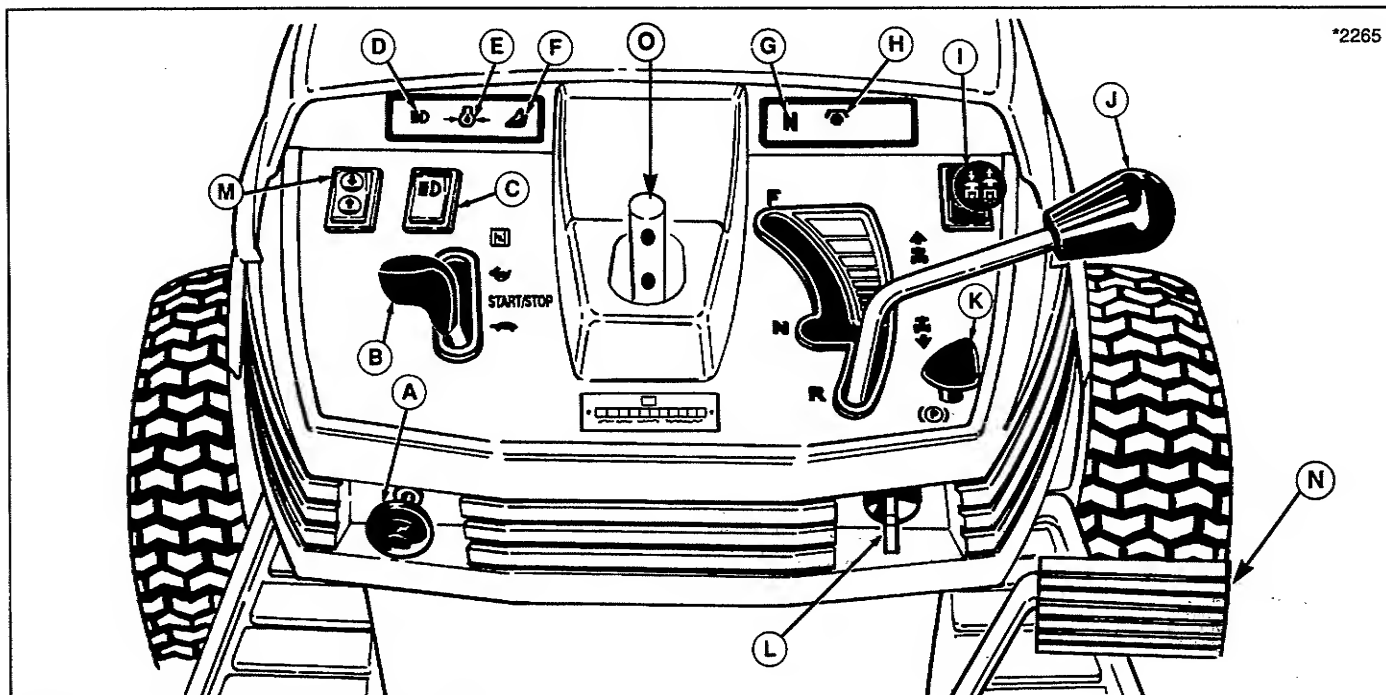
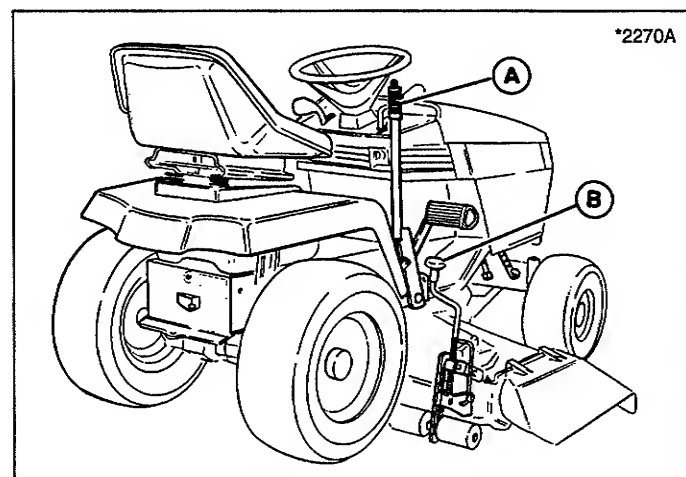
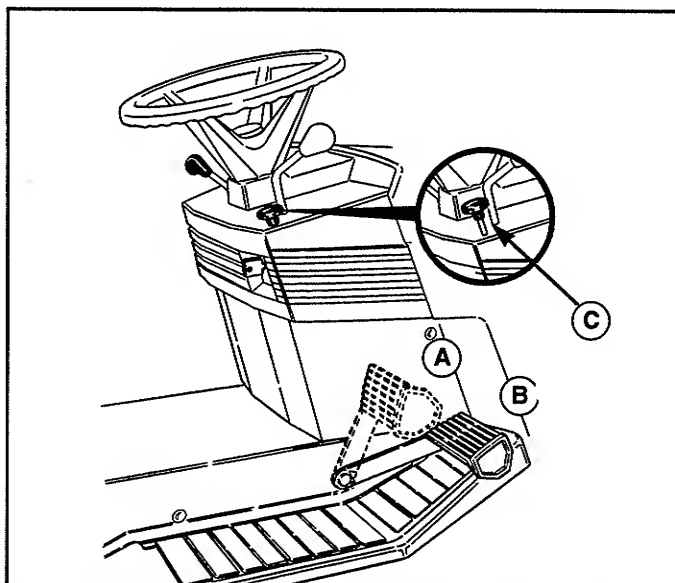
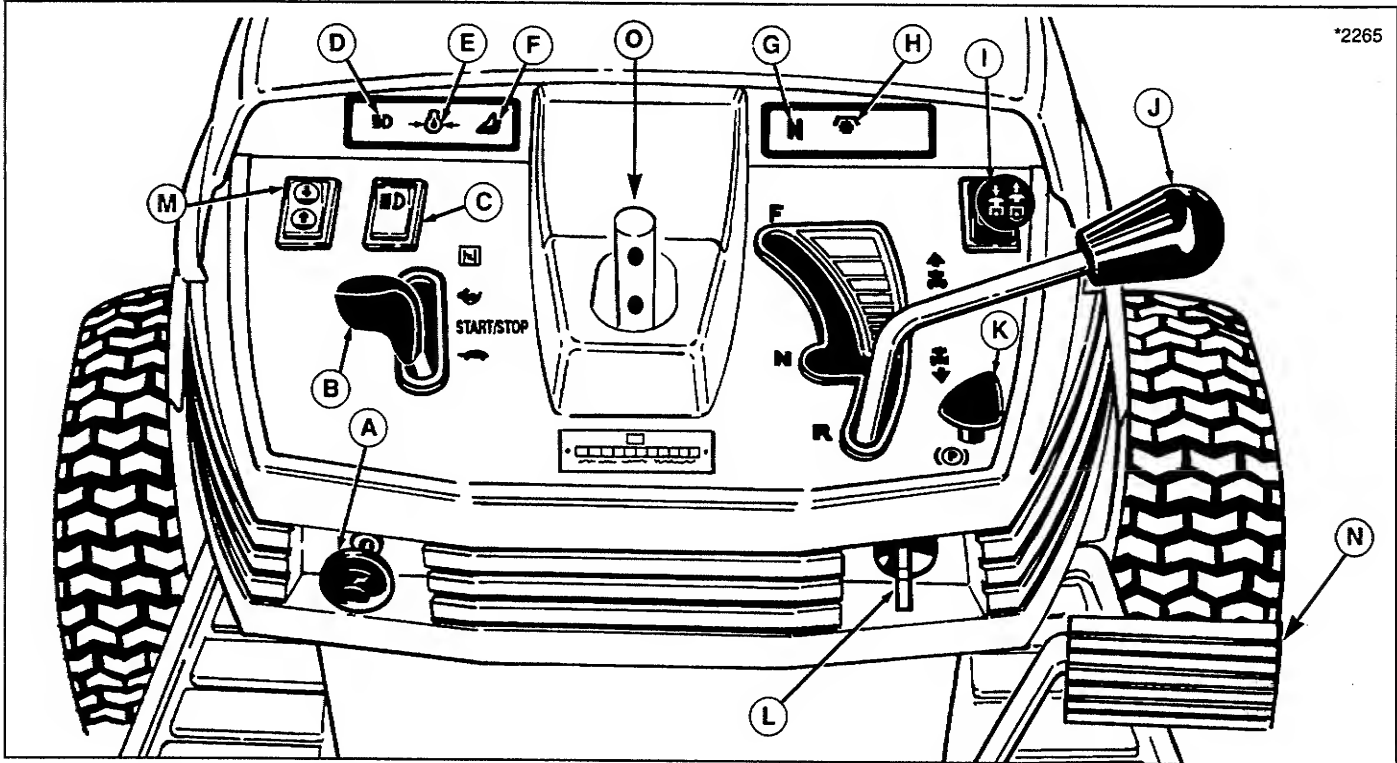

Figure 2. Tractor Controls (Hydro Model Shown)
Figure 10. Mower Operation - Manual Lift
Figure 11. Clutch/Brake Pedal and Parking Brake (Brake Pedal Only - Gear Models)
Figure 13. Tractor Controls (Hydro Model Shown)
- A. Neutral Indicator Light (G, figure 2) should go on with transmission lever in neutral gate and should go out when lever is moved to either the forward or reverse gate.
- B. PTO Indicator Light (H, figure 2) should go on and off with operation of PTO switch.
- C. Oil Pressure Indicator Light (E, figure 2) should be on and should go out immediately after engine starts.
- D. Operator Seated Indicator Light (F, figure 2) should go on when operator is present in the seat and should go off as operator rises out of the seat.
2. Place mower in the lowest cutting position using the mower height adjuster (B, figure 10). Place the mower lift lever (M, figure 2 or A, figure 10)) in the lowest position, also. Slide mower deck under right side of tractor so that mower hitch is aligned with front tractor hitch.
2. Place mower in the lowest cutting position using the mower height adjuster (B, figure 10).
3. Place the mower lift lever (A, figure 10 or M, figure 13) in the lowest position.
1. When traveling to or from the work site, fully raise the mower using the mower lift lever (A, figure 10 or M, figure 13). At the work site, lower mower using the lift lever.
2. Use the mower height adjuster (B, figure 10) to set the proper mowing height. See Mowing Patterns & Tips section for cutting height recommendations.
1. See figure 11. Depressing the pedal to position A disengages the transmission drive and, when in a forward gear, returns the transmission control lever to neutral. Fully depressing the pedal to position B applies the tractor brake.
2. Parking brake is applied at pedal position B when parking brake control knob (C, figure 11) is pulled up with pedal fully depressed.
2. See figure 11. Depressing the brake pedal from position A to B applies the tractor brake. Parking brake is applied at position B when parking brake control knob (C) is pulled up with pedal depressed.
Refer to figure 13.
On hydro models, ground speed is infinitely variable according to how far the control lever (J, figure 13) is moved in the forward or reverse position.
On gear models, ground speed is selected by depressing the clutch pedal and moving the control lever (J, figure 13) to the appropriate gear selection.
1. If you are ready to mow, lower the mower from the transport position using mower lift lever (A, figure 11 or M, figure 13) and set the mowing height using the
mowing height adjuster (B, figure 11).
2. Set the engine speed control lever (B, figure 13) for full speed.
3. Use the PTO switch (I) to engage the PTO.
4. Release the parking brake by depressing brake pedal (N, figure 13) and pushing knob (K) down.
5. On hydro models, move the ground speed control lever (J, figure 13) to the desired direction and speed of travel to set the tractor in motion.
6. Adjust engine speed control lever (B, figure 13) to the desired speed. Between 3/4 and full speed is recommended for mowing.
1. **On hydro models,** move the ground speed control lever (J, figure 13) into the NEUTRAL position to make a gradual stop. To make a more rapid stop, depress the clutch/brake pedal (N, figure 13).
On gear models, press the clutch pedal (N, figure 13) down to disengage the clutch for a gradual stop. For a more rapid stop, press the brake pedal down to apply the brake while also depressing clutch pedal to disengage the PTO. Move the ground speed control lever to NEUTRAL before releasing the pedals.
2. Engage the parking brake by fully depressing brake pedal and pulling up on parking brake knob (K, figure 13).
3. Use the PTO switch (I, figure 13) to disengage the PTO.
4. Set the engine speed control lever (B, figure 13) to 1/2 throttle setting and allow the engine to idle for 20 seconds. Stopping a hot engine too fast may cause engine damage.
5. Turn key (L, figure 13) to OFF and remove it.
1. With engine off and key removed, use the PTO switch (I, figure 13) to disengage the PTO.
2. Place the mower in the transport position (up) using the mower lift lever (A, figure 10 or M, figure 13).